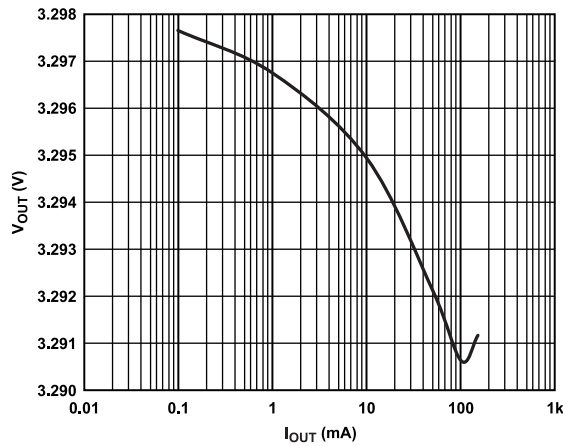

Figure 6. Output Voltage (V_{OUT}) vs. Load Current (I_{OUT})
- Based on an end-point calculation using 1 mA and 150 mA loads. See Figure 6 for typical load regulation performance for loads less than 1 mA.